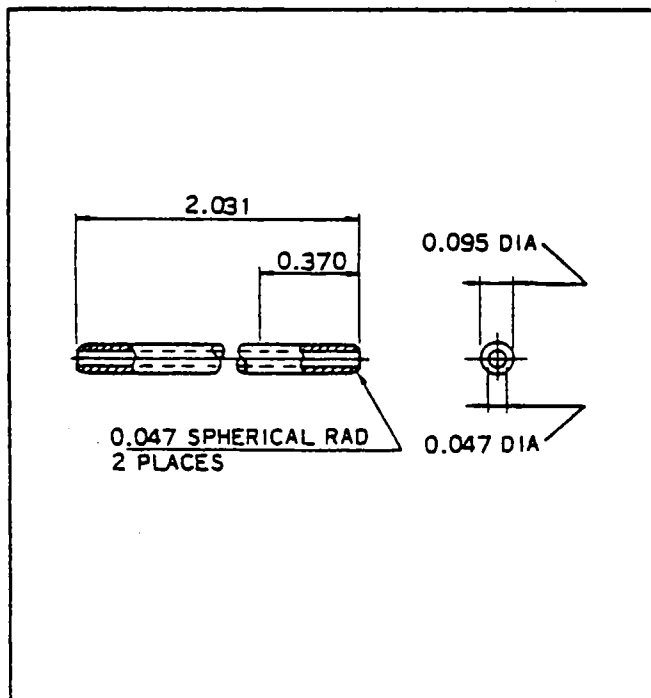
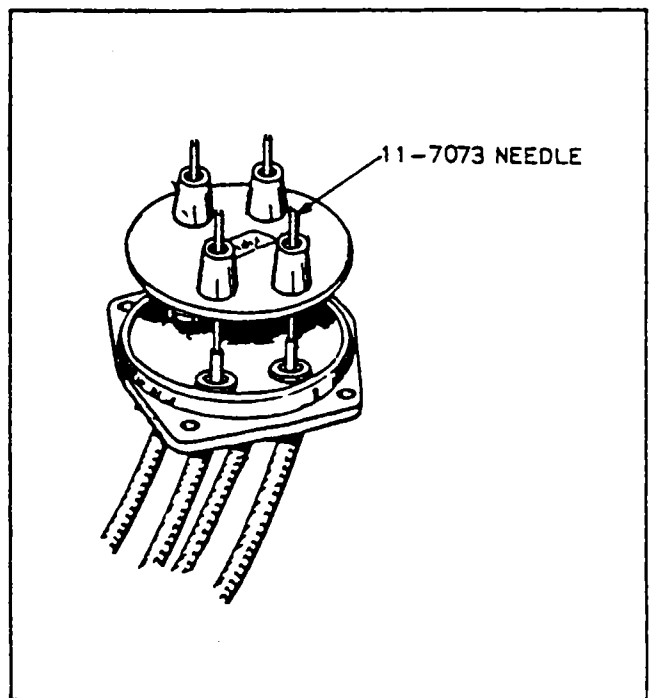

Figure 8-24. Needle
Figure 8-25. Installing Grommet Over Lead Assemblies
14. Insert Bendix 11-7073 Needle (Figure 8-24) through the small hole of the grommet and over the stripped end of the wire. (Refer to Figure 8-25.) Slide grommet down needle until it seats tightly against the tapered ferrule.